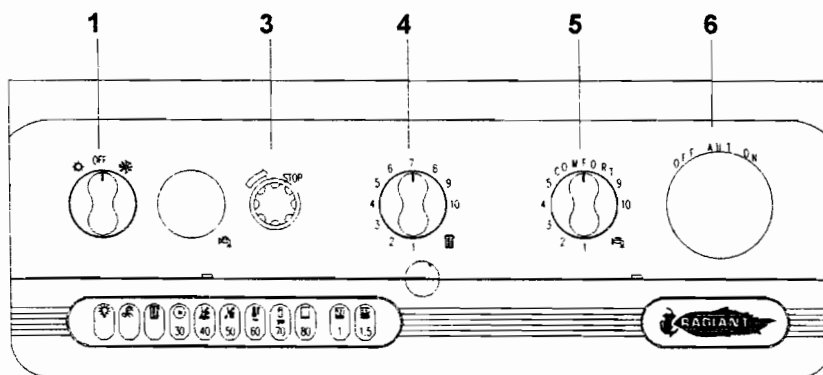

Fig. 1
Set switch 1 to OFF (see fig. 1).
- Set switch 1 to the ❄️ program to have the boiler in WINTER mode, with heating and production of hot water (see fig. 1).